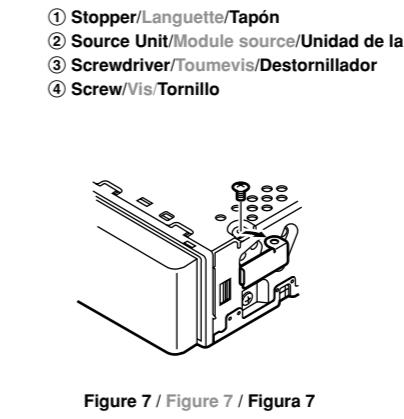

Figure 7 / Figure 7 / Figura 7
- Remove the stopper from the source unit (Figure 7).
- Retirer la languette du module source (Figure 7).